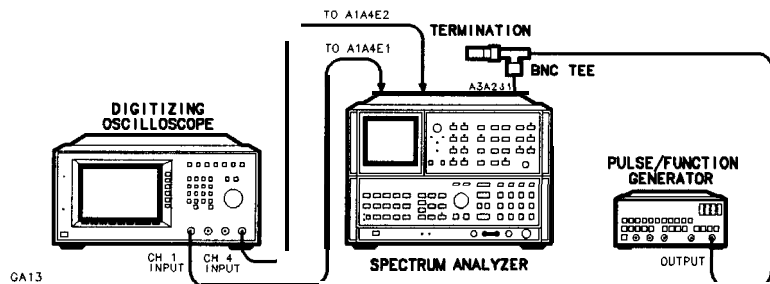
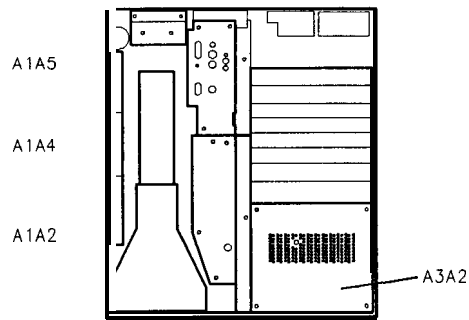
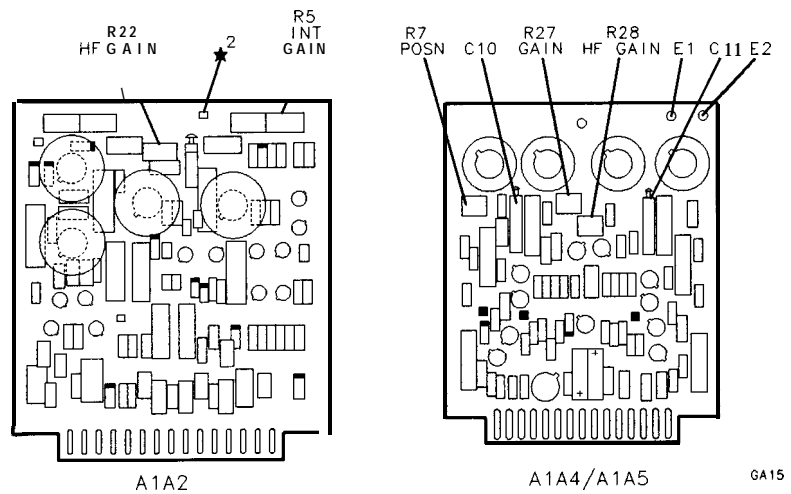
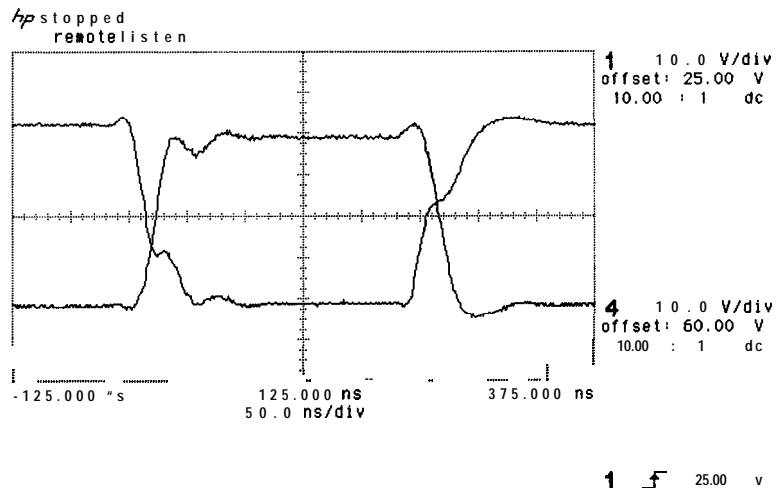

Figure 3-16. Preliminary Display Adjustments Setup
Figure 3-17. Location of A1A2, A1A4, A1A5, and A3A2
Figure 3-18. A1A2, A1A4, and A1A5 Adjustment Locations
Figure 3-19. X + and X- Waveforms
8. Connect the channel 1 10:1 divider probe to A1A4E1, and the channel 4 probe to A1A4E2, as shown in Figure 3-16. Connect the probe ground leads to chassis ground. See Figure 3-17 and Figure 3-18 for the location of the assemblies and test points.
9. Set the spectrum analyzer LINE switch to STANDBY. Remove the cover over A3 Digital Storage Section and remove A3A2 Intensity Control Assembly. Insert the Display Adjustment PC board (HP part number 85662-60088) into the A3A2 slot. See Figure 3-17 for the location of the A3A2 assembly.
11. Connect the output of the pulse/function generator to J1 (X input) on the Display Adjustment PC board in the A3A2 slot as shown in Figure 3-16.
14. The X+ deflection and X- deflection waveforms should be superimposed on the oscilloscope display, as shown in Figure 3-19. If necessary, adjust A1A4R7 X POSN and A1A4R27 X GAIN for a centered display of at least four vertical divisions. See Figure 3-18 for the location of the adjustments.
- Adjust A1A4R28 HF GAIN, A1A4C10, and A1A4C11 for minimum overshoot and minimum rise and fall times of the composite X-deflection waveform. See Figure 3-18 for the location of the adjustments.
19. Connect the oscilloscope channel 1 probe to A1A5E1 and the channel 4 probe to A1A5E2. See Figure 3-18 for the location of the test points. Connect the output of the pulse/function generator to J2 (Y input) on the Display Adjustment PC board in the A3A2 slot.